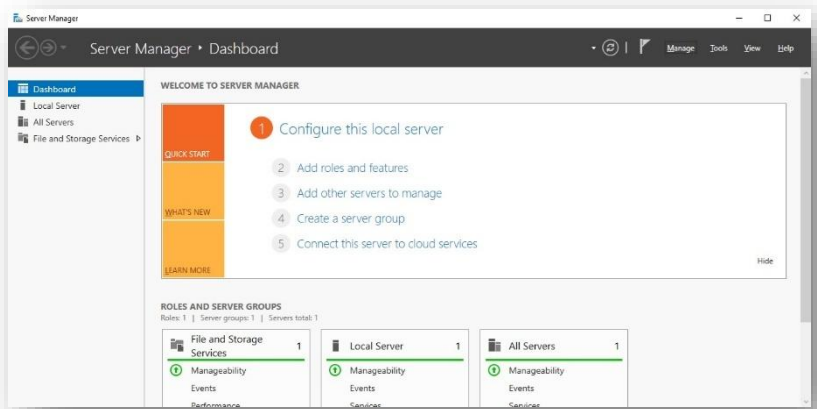

Figure 1 – Server Manager
1. Click the Start Menu and click Server Manager to open the Server Manager window. See Figure 1.